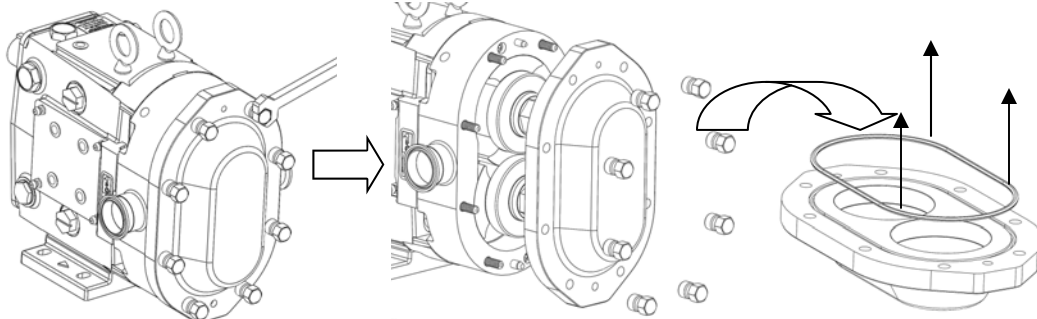

Figure 23: Removing ZP3 Cover
1) During disassembly place all parts on a clean, protected surface with finished surfaces and seal faces facing up. Start by removing the cover nuts with an appropriate wrench (Figure 23). Tap the cover off using a soft mallet. Remove the cover o-ring and inspect it.